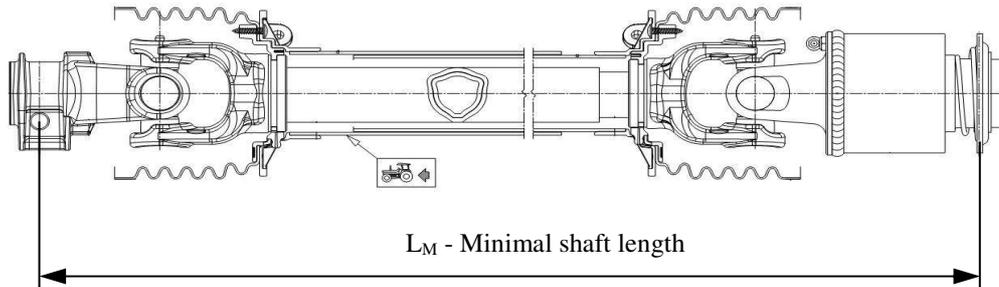

Fig. 18. Properly measured shaft length
- next additionally distract 5.9" from the resulting measurement in order to keep tolerance and shorten the shaft for this particular length (**Fig. 18**). Information on proper shortening of shafts is provided in item **5.5** herein, on decal N-149 placed on the machine and also found in shaft's manual provided by its manufacturer.